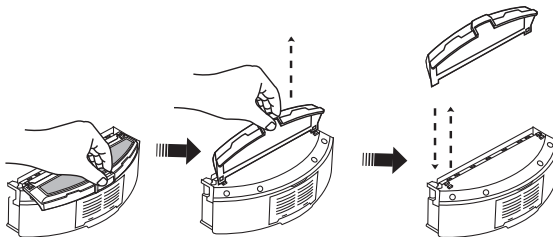

Fig. 3
5. To remove, unclick the velcro mop base from the right and left hinges on the dust filter bracket (refer Fig. 3).